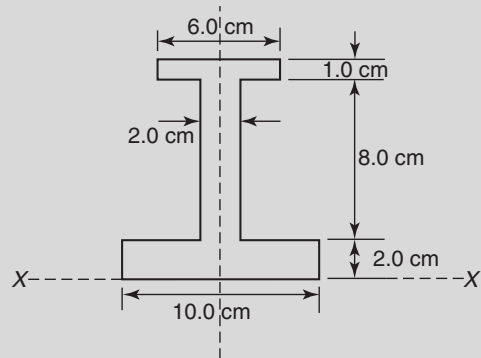

Figure A2.3
4. A beam of length 3 m is simply supported at its ends. If a clockwise couple of 4 kN m is placed at a distance of 1 m from the left hand support, determine the end reactions. (4)
5. If the beam in question 4 carries an additional downward load of 12 kN at a distance of 1 m from the right hand support, sketch the bending moment and shearing force diagrams. (5)
6. A beam of length 4 m is simply supported at its right extremity and at 1 m from the left extremity. If the beam is loaded with a downward load of 2 kN at its left extremity and with another downward load of 10 kN at a distance of 1 m from its right extremity, sketch its bending moment and shearing force diagrams. (6)
7. (a) Find the second moment of area and radius of gyration about the axis XX for the beam section shown in Figure A2.3.